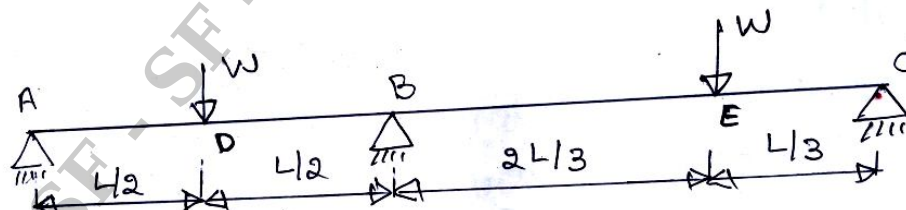

Fig. Q4 (c)
- Find out the collapse load for a continuous beam shown in Fig. Q4 (c). The beam is of uniform cross section. Draw plastic moment diagram. (08 Marks)